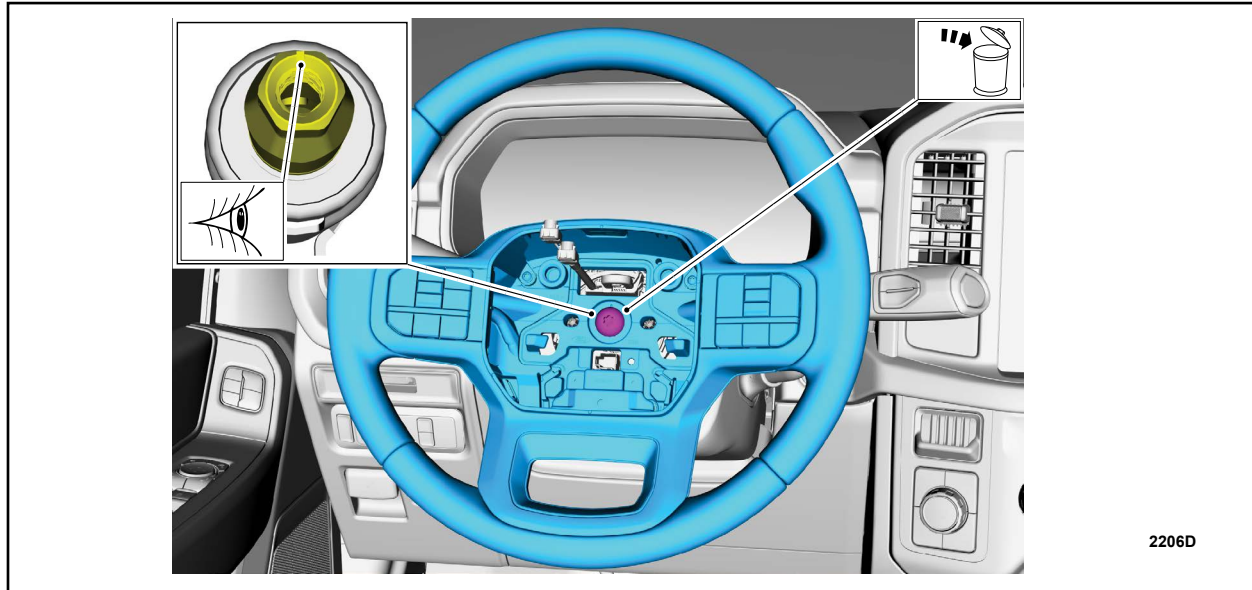

FIGURE 12
5. Remove and discard the steering wheel bolt and remove the steering wheel. See Figure 12.